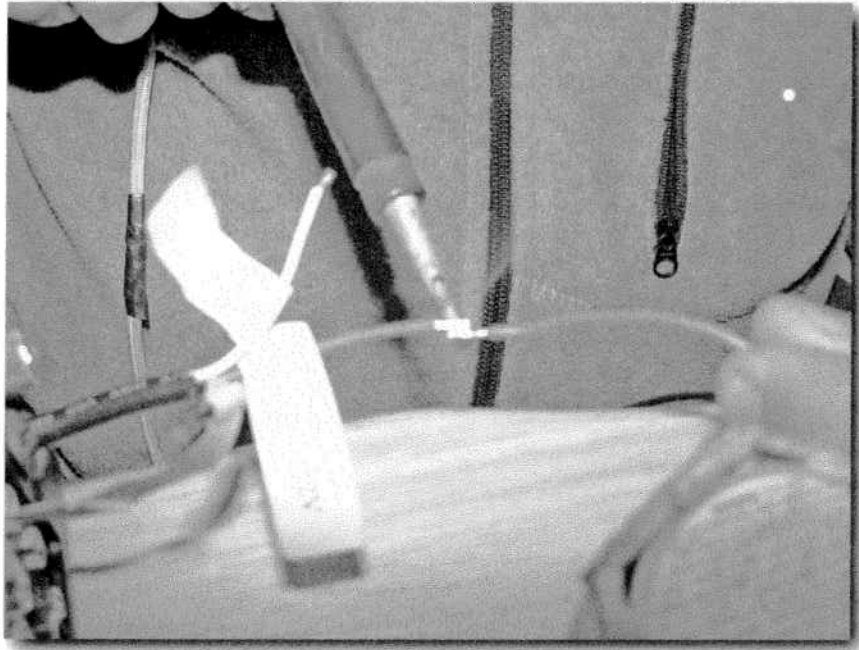

FIGURE 3-9: Solder the wires together.
3. Solder the wires together. In this case (even though this book is black and white) use red for ignition, green for power, and black for ground. Never fear, for those Kodachrome® lovers out there, I will make these images available in color on the *Geek My Ride* Web site! First straighten out the stranded wire and then twist the wires together helically (one around the other) and then solder them together as illustrated in Figure 3-9. This is called *splaying* the wire.